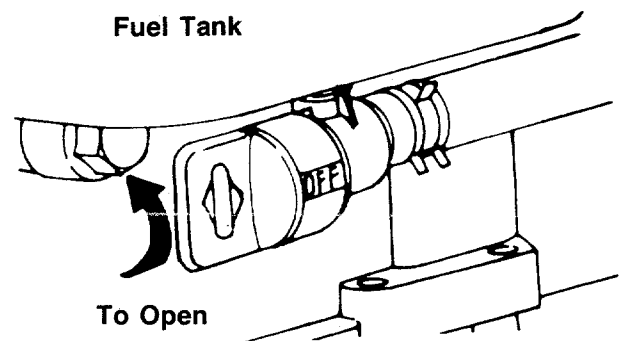

FIGURE 20.
3. The fuel shut-off valve is located beneath the fuel tank. On Model 192, an access hole is provided in the catcher panel. The fuel shut-off valve should be in the open position. See figure 19. Open fuel shut-off valve using a wrench if it is closed. See figure 20.